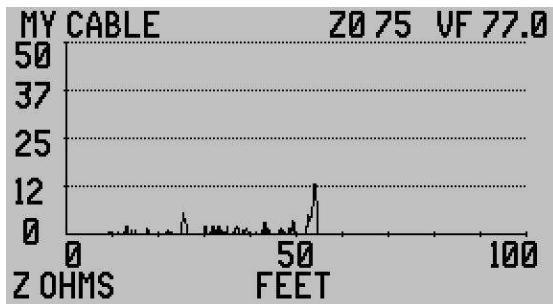

Figure 2-6A
**KINKS ONLY** – TDR presents an amplified trace of reflections from kinks, crimps or crushed areas along the cable. The cable’s  $Z_0$  is plotted at the bottom of the plot with the faults appearing as upward refection spikes. See figure 2-6A.
In figure 2-6A the micro fault at about 25 feet (5 Ohms) may not be service affecting. The micro fault at 55 feet (12 Ohms) is most likely service affecting. Anything over 15 Ohms is certain to affect service.